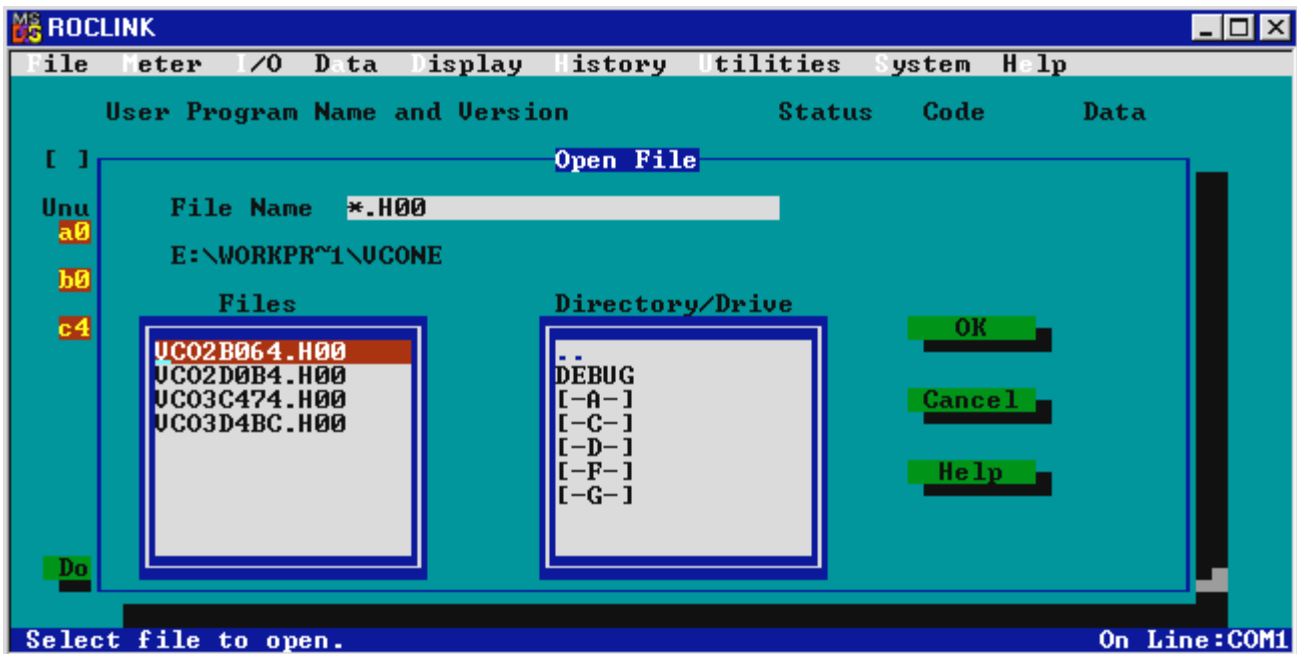

Figure 2. Open File Dialog Box
5. Press the **Download** pushbutton. The Open File dialog box appears as shown in Figure 2. This display lists the names of all the files that have the .H00 extension and are located in the default Drive and Directory. Use the mouse or the Up Arrow (↑) and Down Arrow (↓) to select the desired file in the Files list. You may change the path or location using the Directory/Drive field.